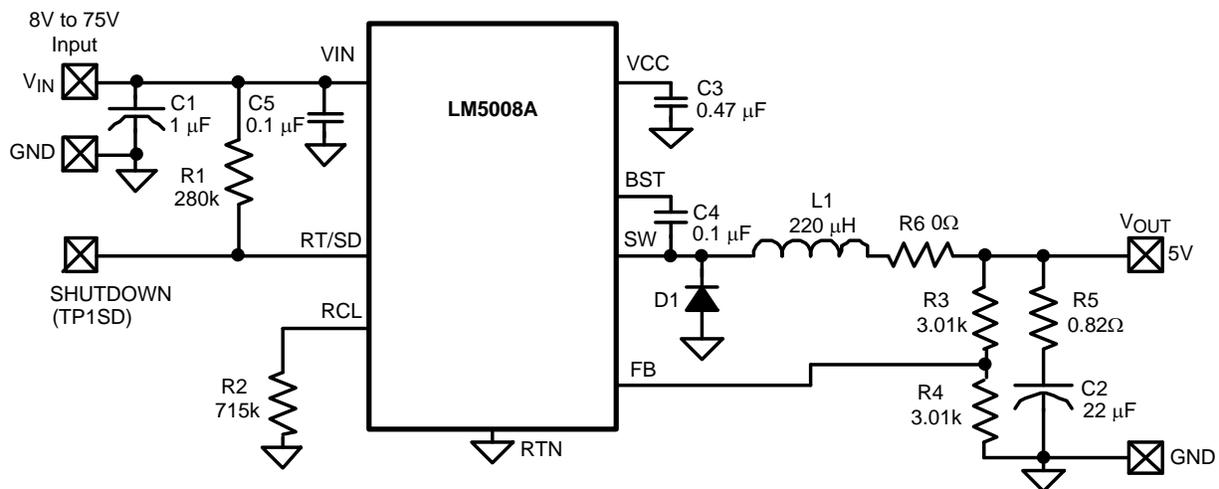
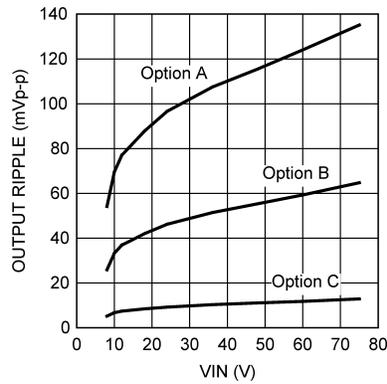

Figure 2. Lowest Cost Configuration
Figure 8. Output Voltage Ripple
**Option A) Lowest Cost Configuration:** In this configuration R5 is installed in series with the output capacitance (C2). Since  $\geq 25 \text{ mVp-p}$  are required at the FB pin, R5 must be chosen to generate  $\geq 50 \text{ mVp-p}$  at  $V_{OUT}$ , knowing that the minimum ripple current in this circuit is  $\approx 66 \text{ mA p-p}$  at minimum  $V_{IN}$ . Using  $0.82\Omega$  for R5, the ripple at  $V_{OUT}$  ranges from  $\approx 54 \text{ mVp-p}$  to  $\approx 135 \text{ mVp-p}$  over the input voltage range. If the application can accept this ripple level, this is the most economical solution. The circuit is shown in Figure 2 and Figure 8.
where  $t_{ON(max)}$  is the maximum on-time (at minimum  $V_{IN}$ ), and  $R_3/R_4$  is the parallel equivalent of the feedback resistors. The ripple at  $V_{OUT}$  ranges from 26 mVp-p to 64 mVp-p over the input voltage range. See Figure 8.
RA and CA are then chosen from standard value components to satisfy the above product. Typically CA is 3000 to 10000 pF, and RA is 10 k $\Omega$  to 300 k $\Omega$ . CB is chosen large compared to CA, typically 0.1  $\mu\text{F}$ . The ripple at  $V_{OUT}$  is typically less than 10 mVp-p. See Figure 4 and Figure 8.